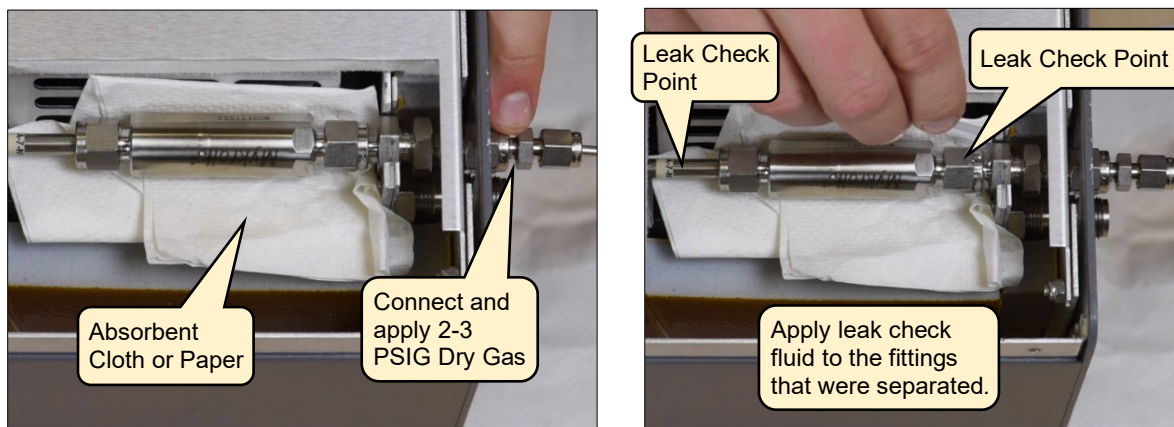

Figure 11: Leak Test After Reassembly – Stainless Steel Filter
2. Using a 2 mm hex driver, remove the top lid of the analyzer by removing six M3 x 6 mm socket flathead screws (Figure 11).